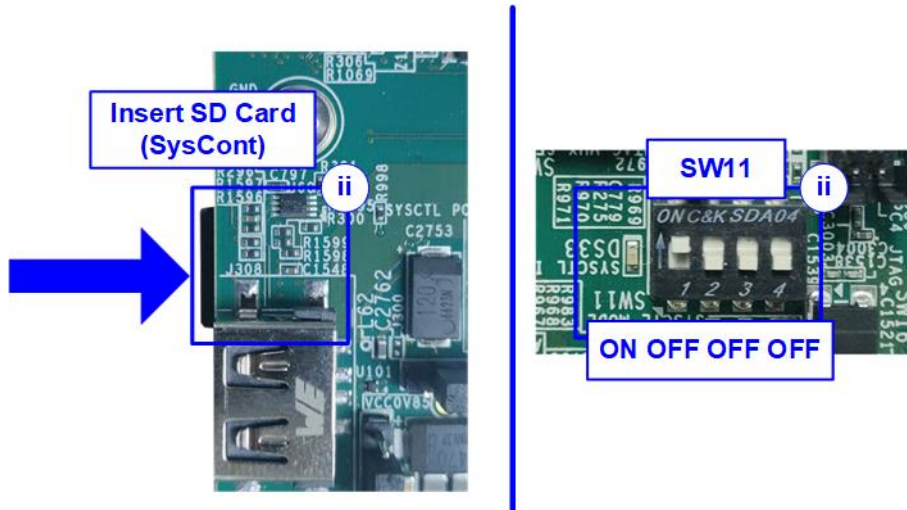

Figure 6 SD Card Boot Setting on VCK190
- ii) Insert the micro SD card into the system controller’s SD card socket (J206) and set the DIP switch (SW11) to ON OFF OFF OFF to boot from the SysCont SD, as shown in Figure 6.